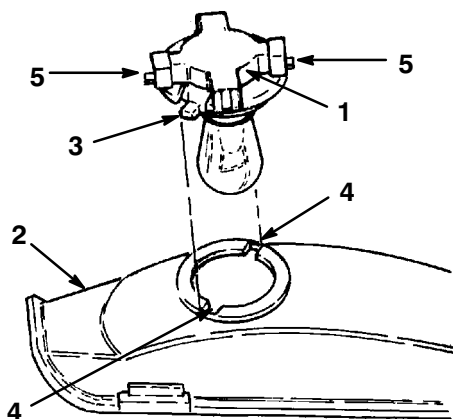

Figure 50
4. Rotate the bulb holder 1/4 turn counterclockwise and remove it from the reflector (Fig. 50).
2. Align the two tabs on the bulb holder with the slots in the reflector and insert the bulb holder into the reflector (Fig. 50).